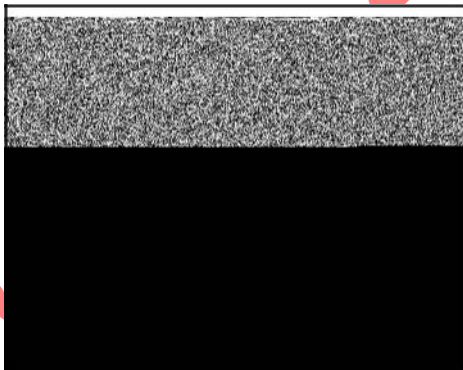

Figure 21
11. Install four cover screws (A, Figure 21) and torque to values listed in Section 12 - Engine Specifications.